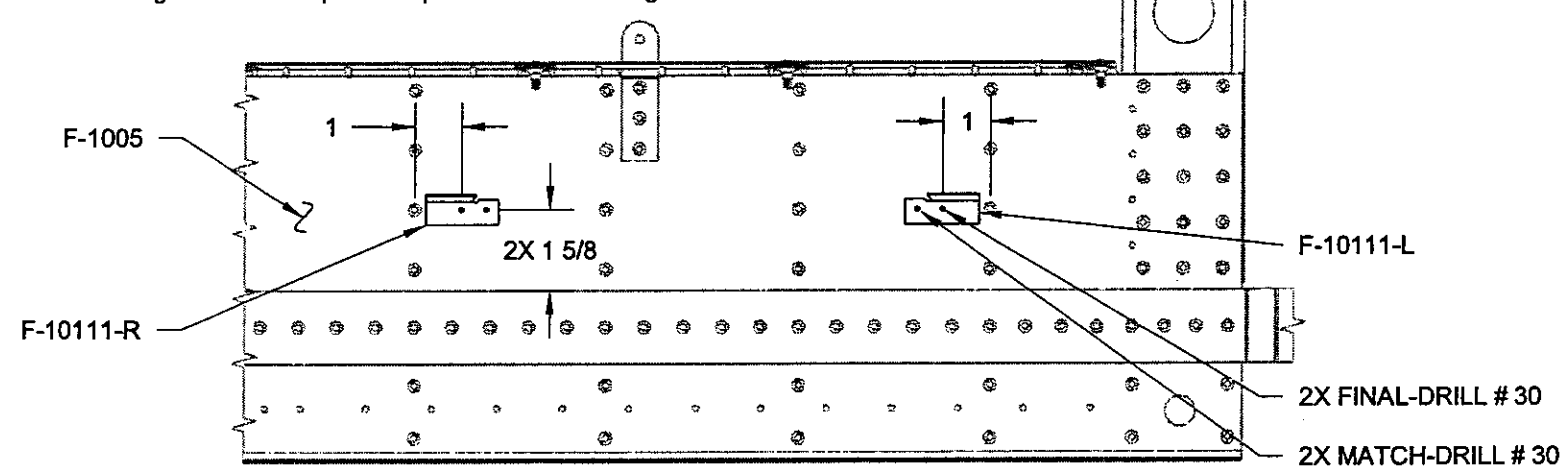

FIGURE 2: ATTACHING ANGLE BRACKETS TO THE REAR SPAR BULKHEAD ASSY (FRONT VIEW)
Step 1: Final-Drill two places as per the dimensions in Figure 2. Break apart and deburr the F-10111 Angle Brackets into two lefts and two rights. Cleco the angle brackets to the F-1005 Rear Spar Bulkhead and match-drill the rear spar bulkhead using the second hole in each angle bracket as a guide. Remove the angle brackets and final-drill as per the callout in Figure 1. Deburr. Prime the angle brackets as desired. Rivet the angle brackets in place as per the callouts in Figure 1.